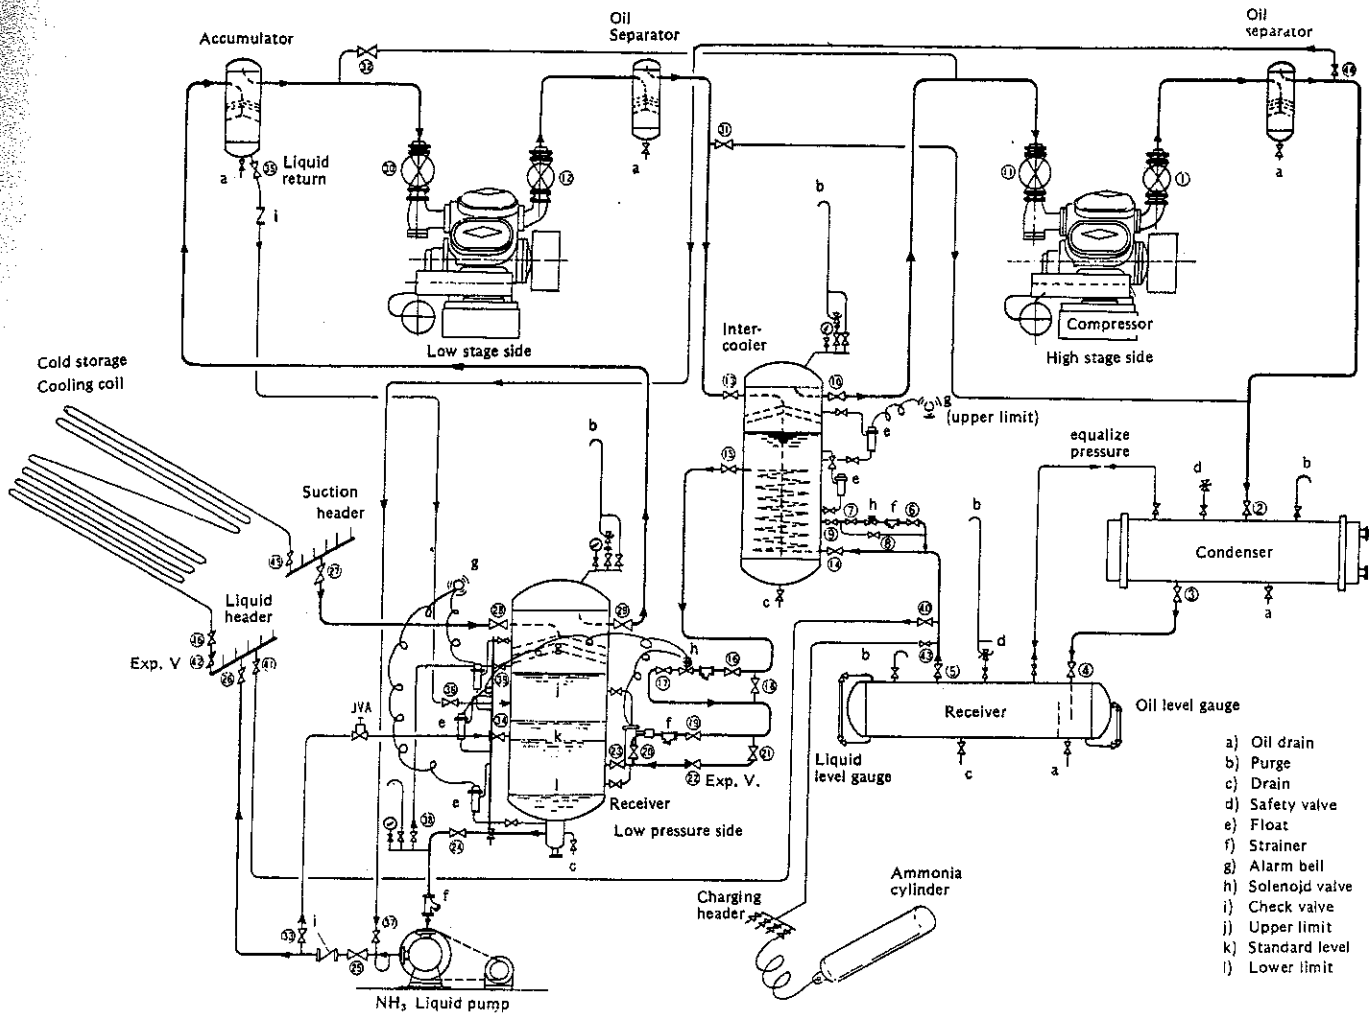

Fig. 97 Piping flow chart of two stage compression
- c. When the assembly of these parts is finished, check operation as shown in Figure 97.
The attached flow chart (Fig. 97) of a two-stage compression system shows the most common piping flow using a liquid pump.
Refer to flow chart. (Fig. 97).